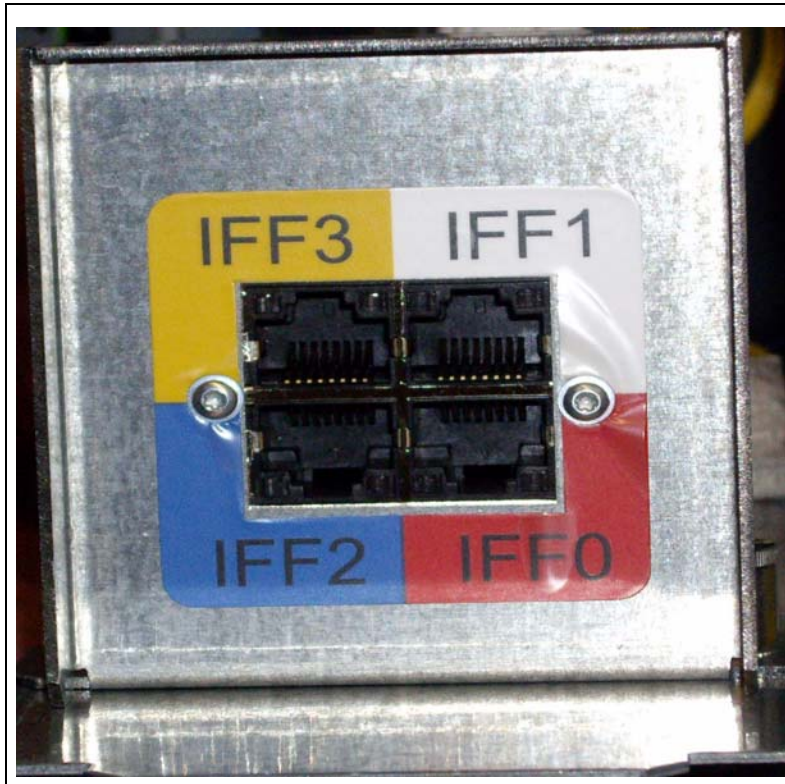

FIGURE 1-4 IFF3 Ethernet Port for Connection to TCP/IP Network
4. Ensure that the VTSS is connected with Ethernet cable to the TCP/IP network via the IFF3 port at the bottom of the frame as shown in FIGURE 1-4.